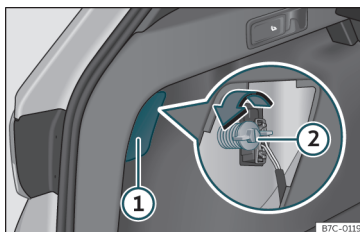

Fig. 49 Luggage compartment: access to the bolt securing the tail light unit.
- Remove the lid, levering it with the flat side of a screwdriver into the recess»» **Fig. 49** ①.
- Unscrew the light securing bolt by hand or using a screwdriver»» **Fig. 49** ②.